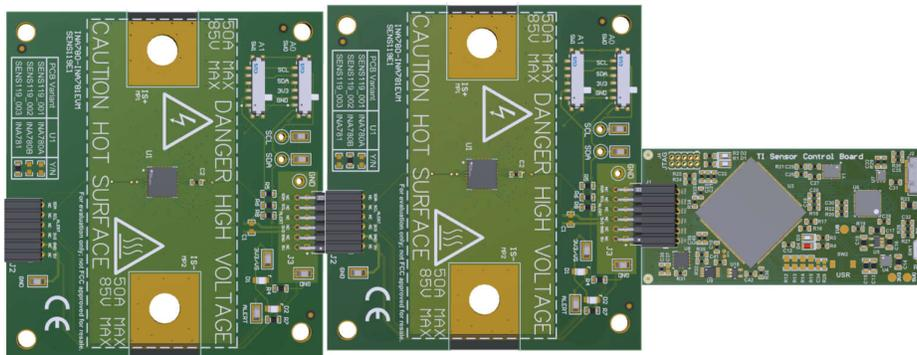

Figure 2-2. Multiple EVMs Connected to SCB Controller
- a. Refer to Figure 2-2 when connecting multiple EVMs of the same type together.
If using multiple EVMs, then connect them as shown in Figure 2-2. Make sure to use a different chip select/address for each device. The GUI only supports one EVM or device type at a time; up to four EVMs total.